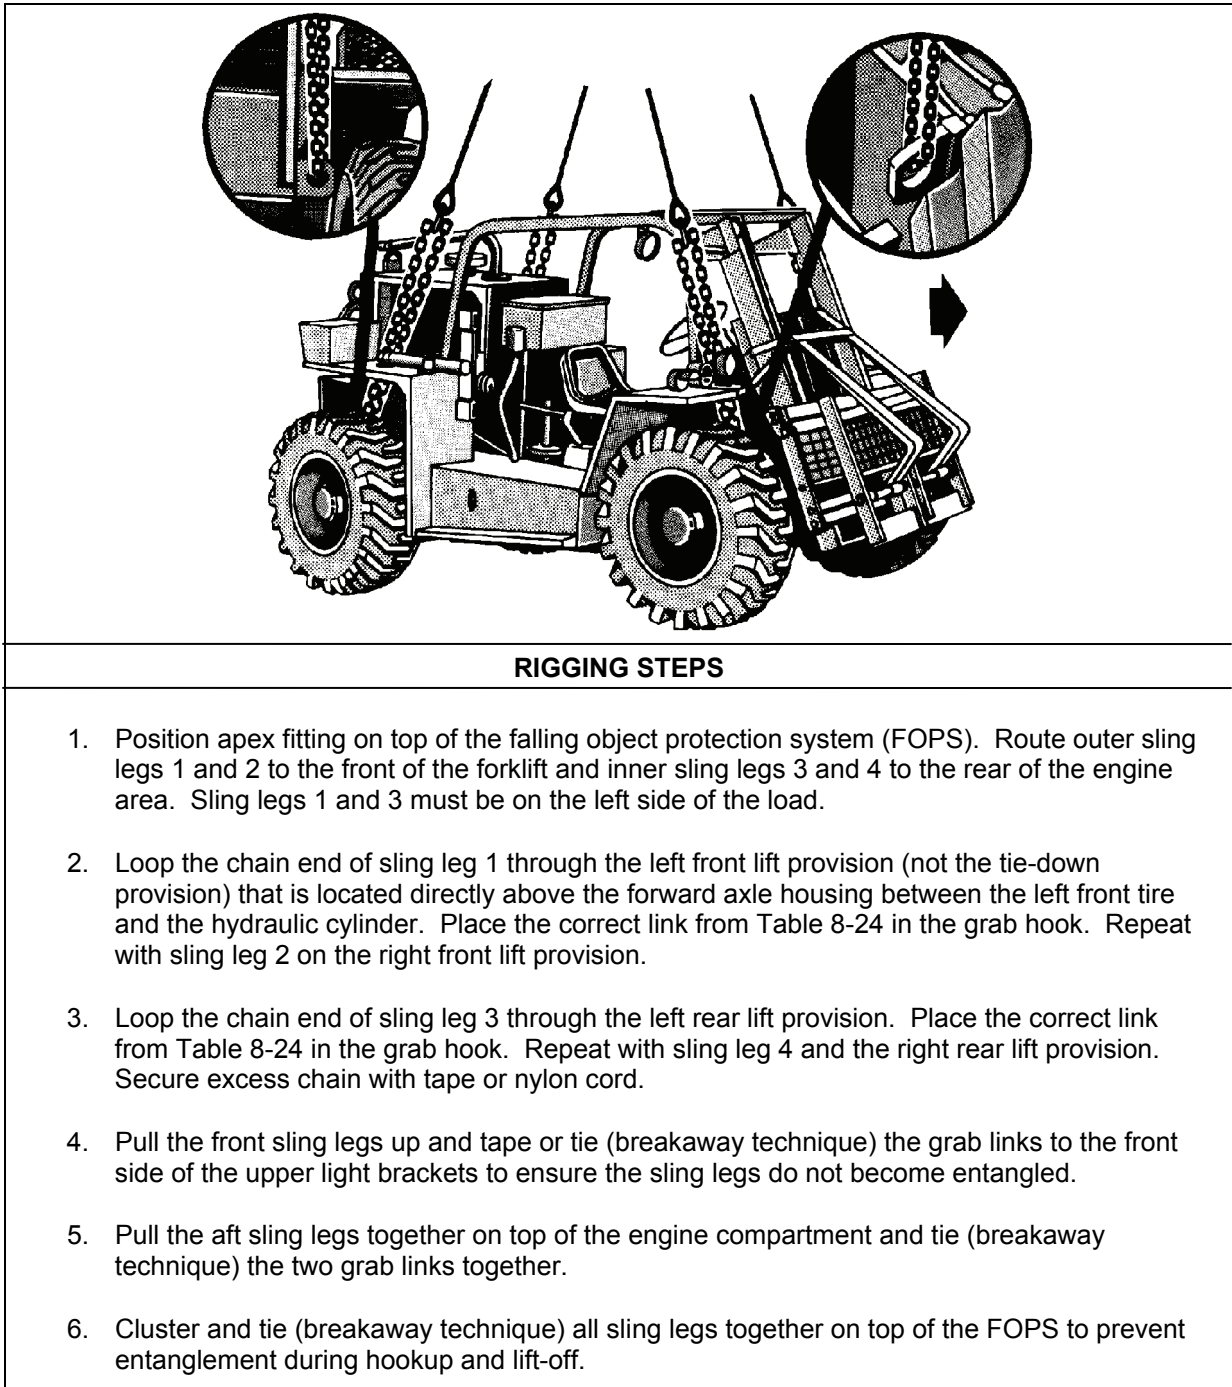

Figure 8-24. Truck, Forklift, RT4000
- **Rigging.** Rig the load according to the steps in Figure 8-24.